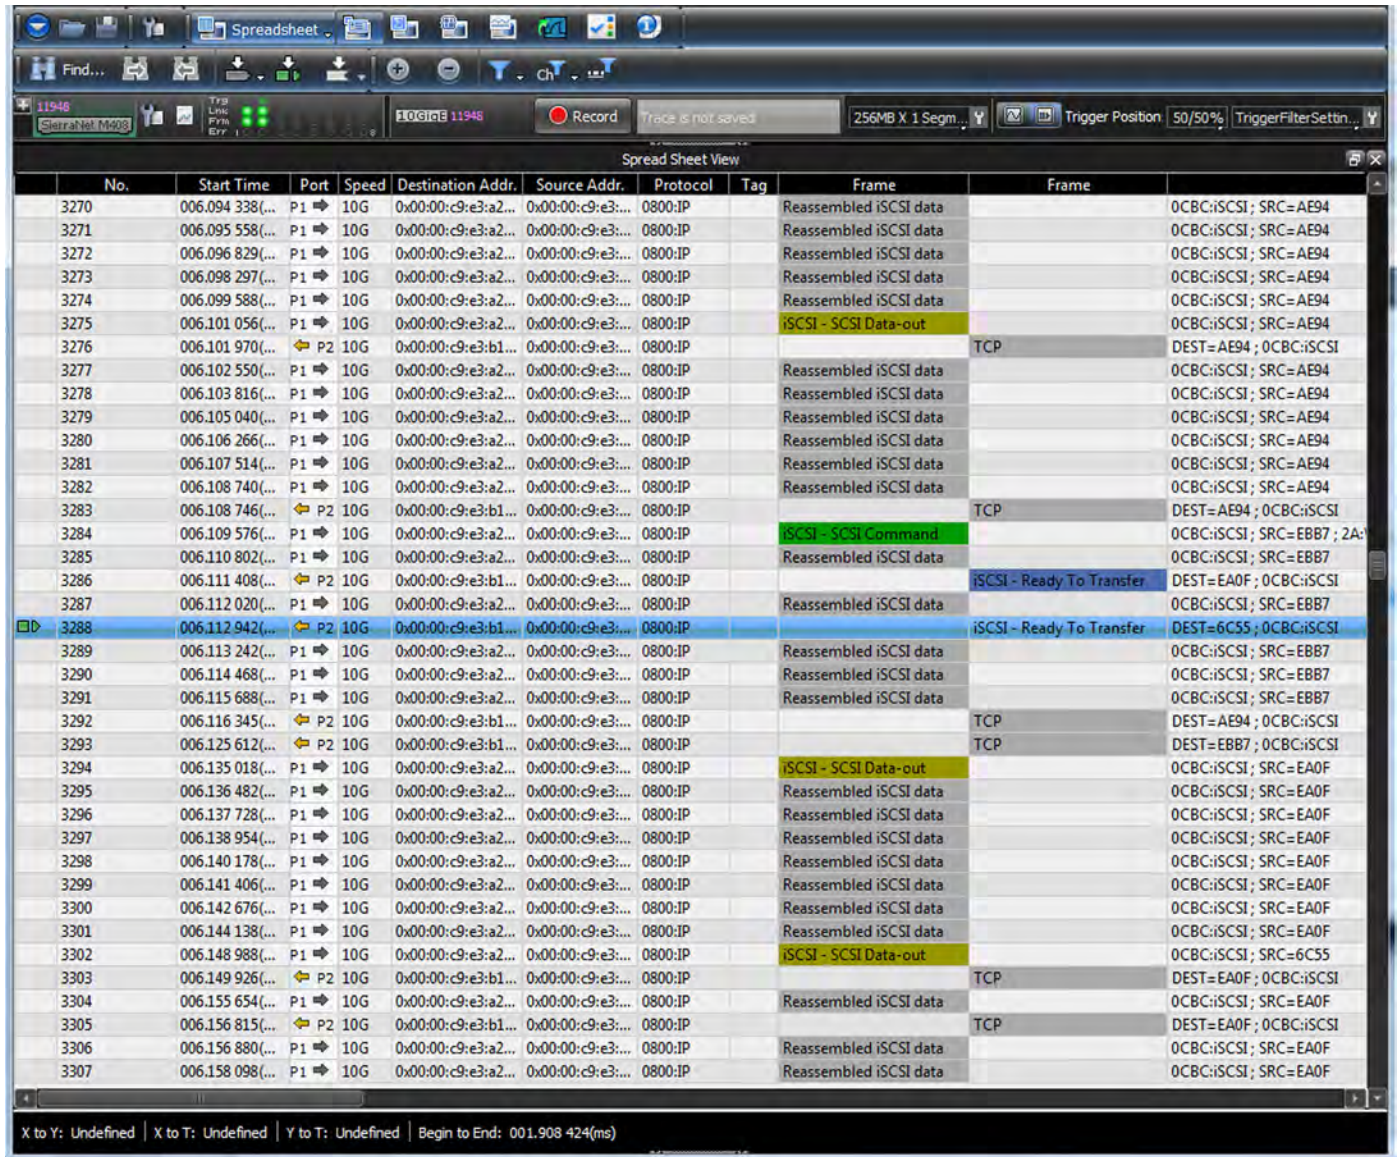

Figure 3.35: Uploaded Trace
- Click the **Upload Selected** button. The section of the original Trace you outlined is uploaded. See Figure 3.35.